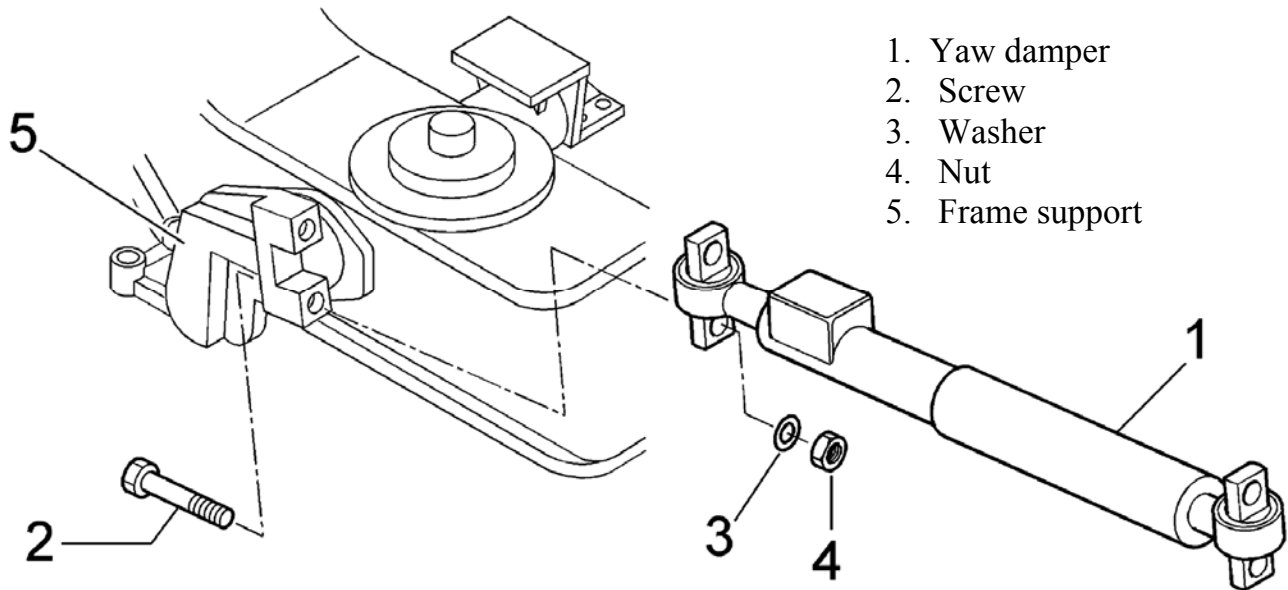

FIG. 4.29 REMOVING A YAW DAMPER
In order to remove the yaw dampers (1 - FIG. 4.29), extract the screws (2), the washers (3) and the nuts (4) which fix their ends to the bogie frame side supports (5).